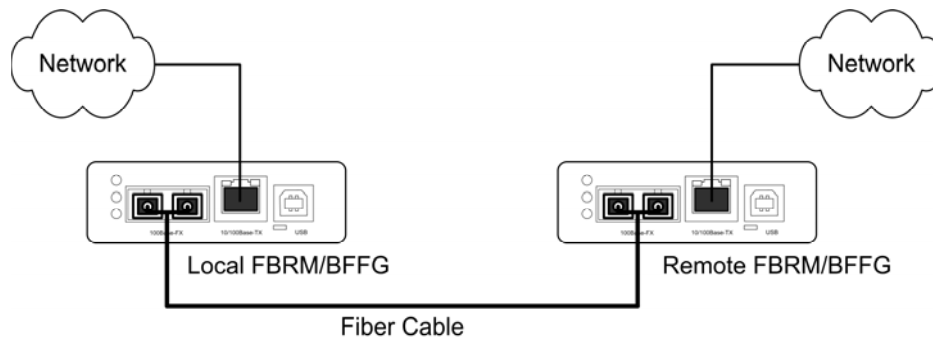

Figure 13: Installation with Two SFBRM/SBFFG Standalone Devices
Figure 13 shows a typical installation involving two (2) SFBRM/SBFFG standalone Devices on a network.